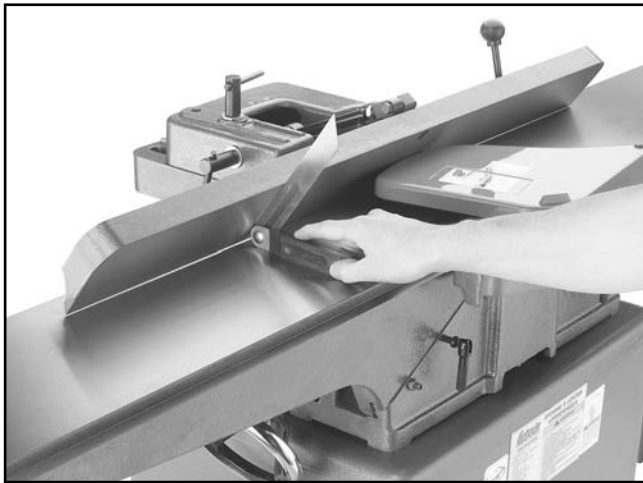

Figure 42. Checking the fence at 45° L with a 45° square.
3. Set your bevel gauge to 45°, and place it on the table so the angled portion is against the fence as shown in **Figure 42**.